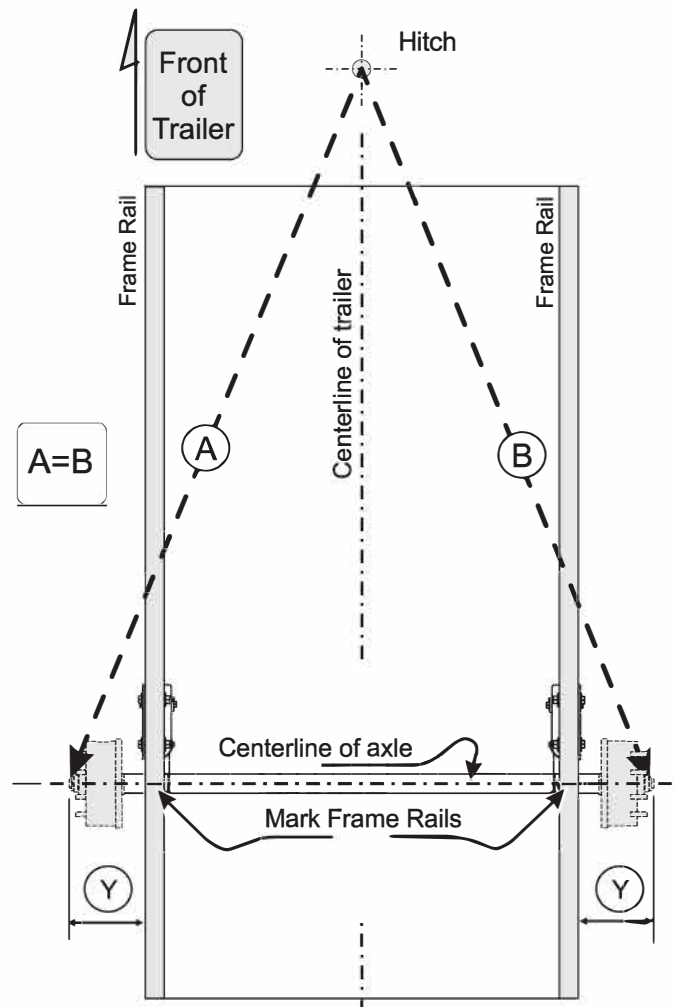

Fig. 1 Axle alignment (View from Top)
- 1) Mark frame rails at each side where centerline of axle should cross frame (fig. 1).
- 5) To align axle, measure and compare distances "A" and "B" (fig. 1) and make sure that the error (the difference between "A" and "B") is no more than 1/8". If the error is greater than 1/8" reposition frame bracket and re-check,